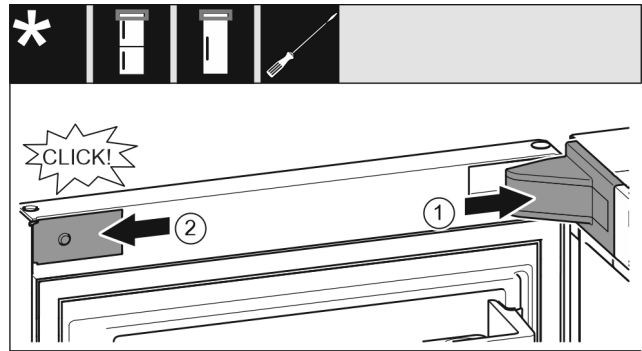

Fig. 21
- ▶ Position the bearing bracket and latch it in place. If necessary push it apart carefully. Fig. 21 (1)
- ▶ Position the panel on the side and latch into place. Fig. 21 (2)